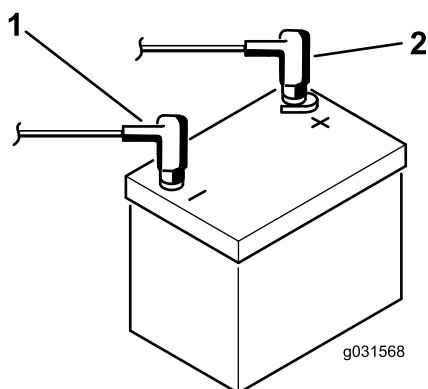

Figure 4
8. Install the positive cable (red) to the positive (+) terminal and the negative cable (black) to the negative (–) terminal of the battery and secure them with the bolts and nuts (Figure 4).